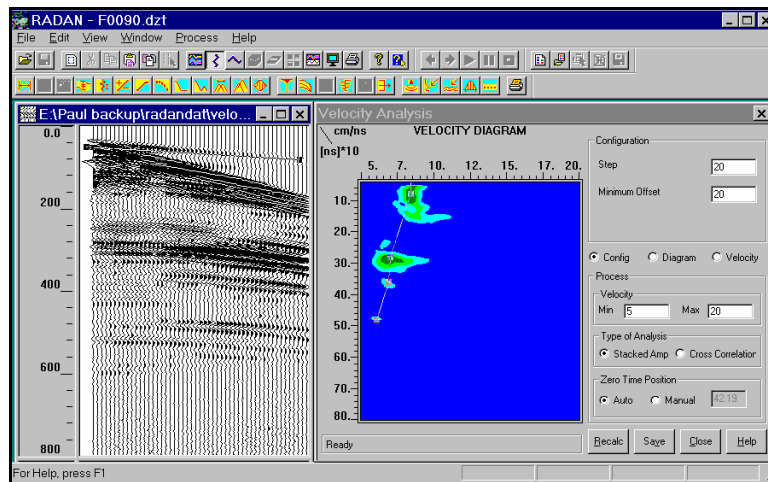

Figure 63: Velocity Analysis window showing results of computation.
- 10** Once you have entered the required information, click the Recalc button and the program will calculate the estimated velocities of the layers present in the data. The resulting velocity spectrum will look like Figure 63.